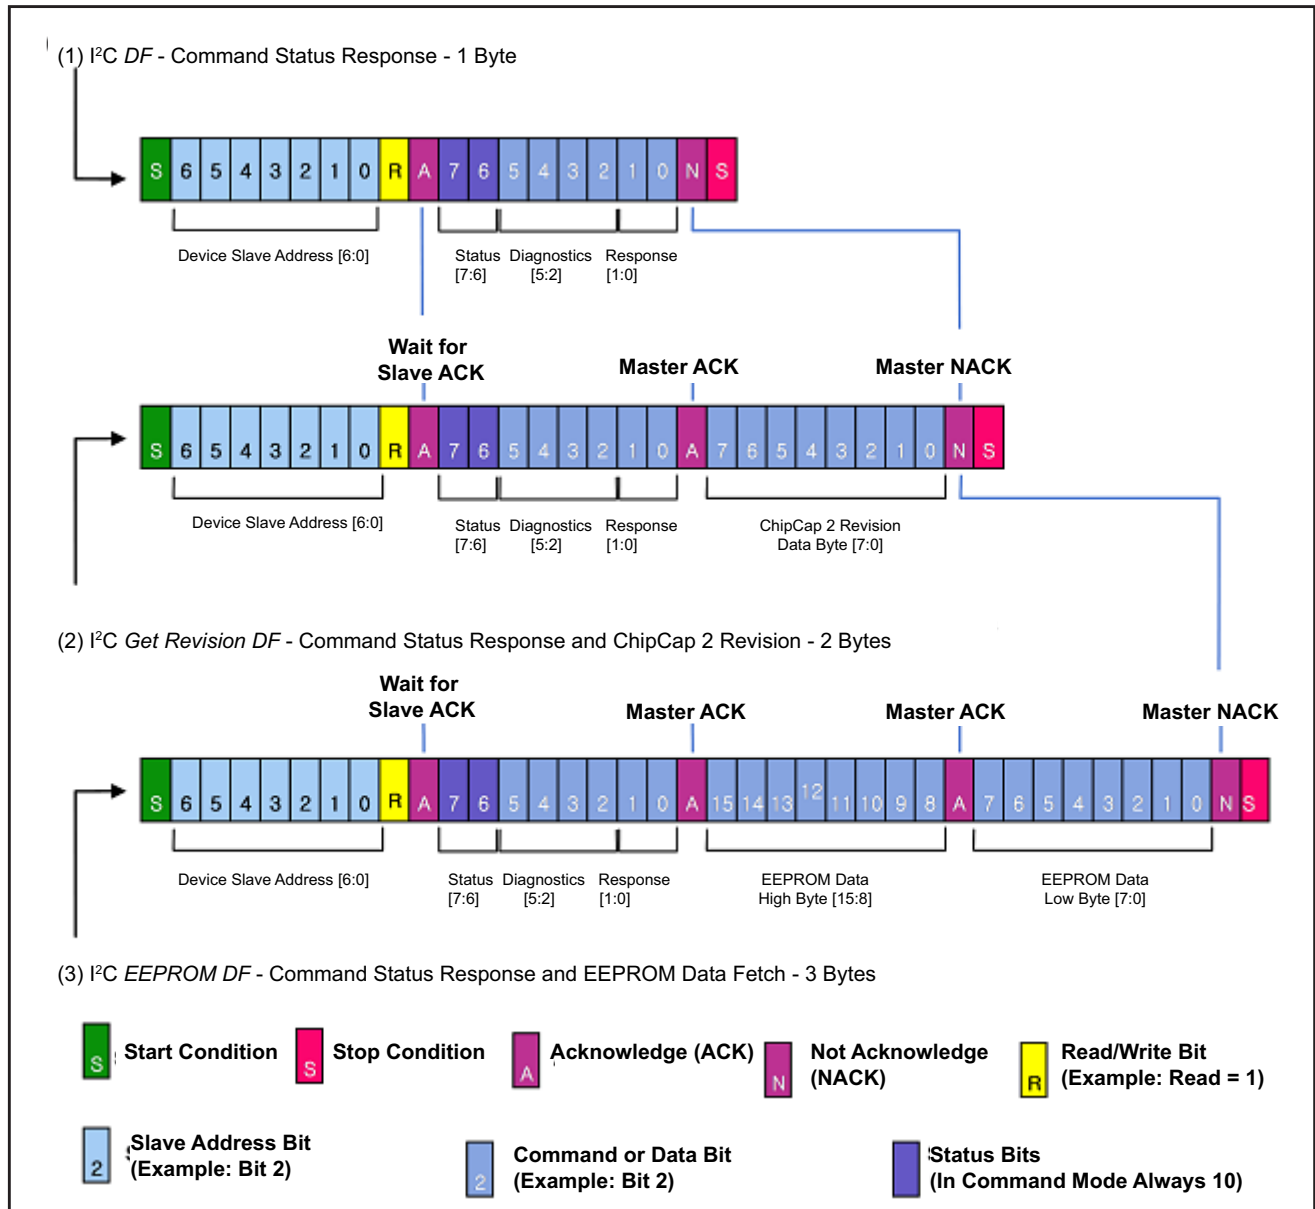

Figure 19: Command Mode Data Fetch
After a command has been sent and the execution time defined in Table 11 has expired, an I2C Data Fetch (DF) can be performed to fetch the response. As shown in Figure 19 on page 29, after the slave address has been sent, the first byte fetched is the response byte.
For all commands except EEPROM Read and Get Revision, the data fetch should be terminated after the response byte is read. If the command was a Get Revision, then the user will fetch a one byte Revision as shown in Figure 19 on page 29, example 2.
The revision is coded with the upper nibble being the letter corresponding to a full layer change and the lower nibble being the metal change number, for example A0. If the command was an EEPROM Read, then the user will fetch two more bytes as shown in Figure 19 on page 29, example 3.
If a Corrected EEPROM Error diagnostic was flagged after an EEPROM read, the user has the option to write this data back to attempt to fix the error. Instead of polling to determine if a command has finished executing, the user can use the Ready pin. In this case, wait for the Ready pin to rise, which indicates that the command has executed. Then a data fetch can be performed to get the response and data (see Figure 19 on page 29).